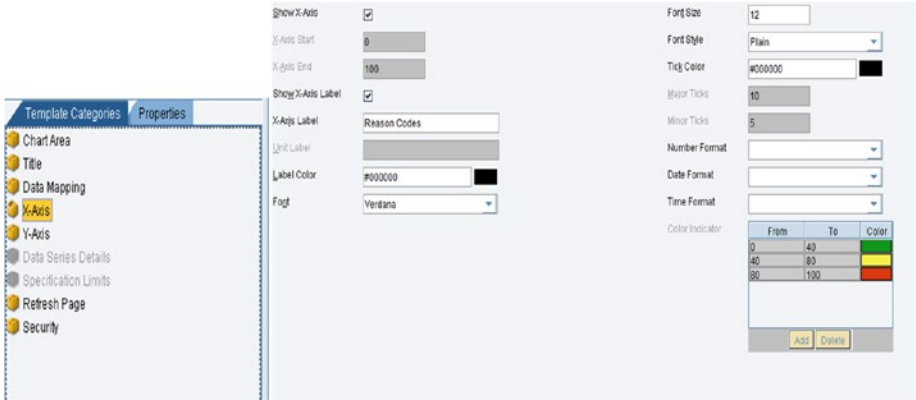

Figure 7-42. i5Chart X-axis configuration
- *i5Chart X-axis*: The X-axis tab configures parameters associated with the X-Axis (horizontal axis). See Figure 7-42.